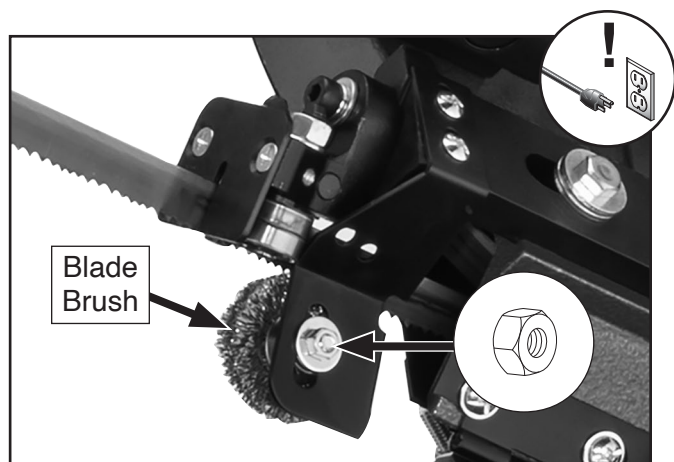

Figure 85. Location of blade brush and hex nut.
2. Loosen hex nut shown in **Figure 85**.
3. Position brush **Figure 85** so blade extends $\frac{1}{8}$ " into bristles of brush, then tighten hex nut to secure.